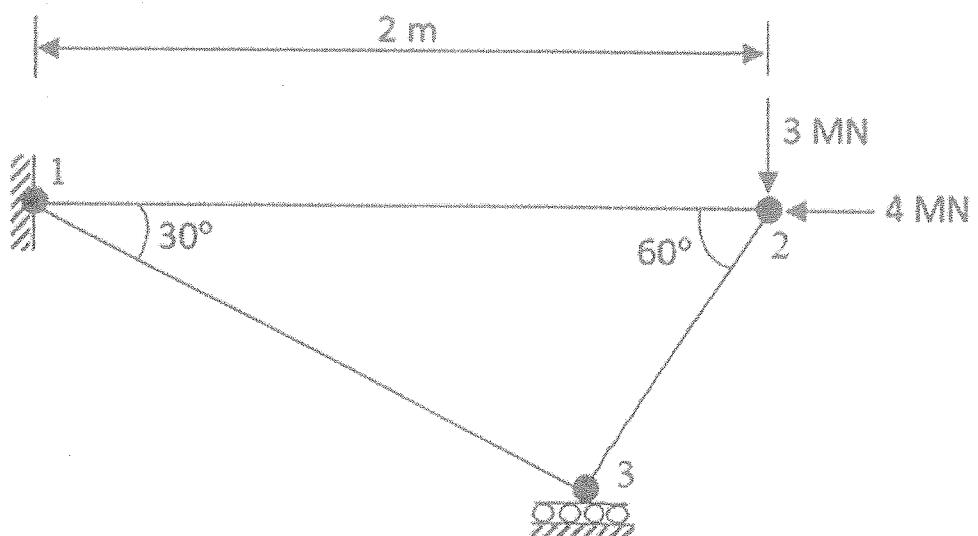

Fig. Q4
- Q4** A plane pin-jointed truss shown in Fig. Q4 is free to move horizontally on rollers at node 3 but it is not allowed to move vertically. It may also be assumed that the truss is firmly pinned at node 1 and the truss is loaded at free standing node 2 with 4 MN and 3 MN horizontal and vertical loads respectively. The material and geometrical properties of its members are as given below.